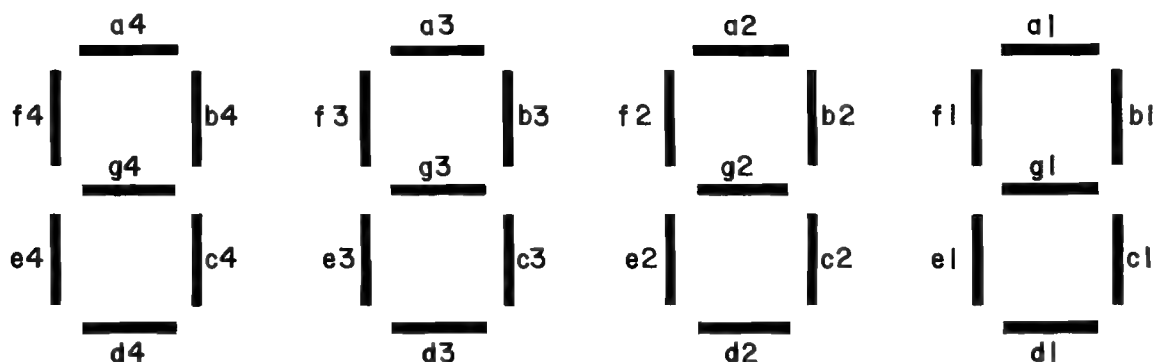

Figure 8-8 LCD Display Segment Lines
5. Using Channel 2 of Oscilloscope, verify that applicable outputs of U8209 are either in phase or 180 degrees out of phase with channel 1. If Channel 2 is 180 degrees out of phase with Channel 1, a corresponding segment on the LCD should be illuminated. See Figure 8-8.